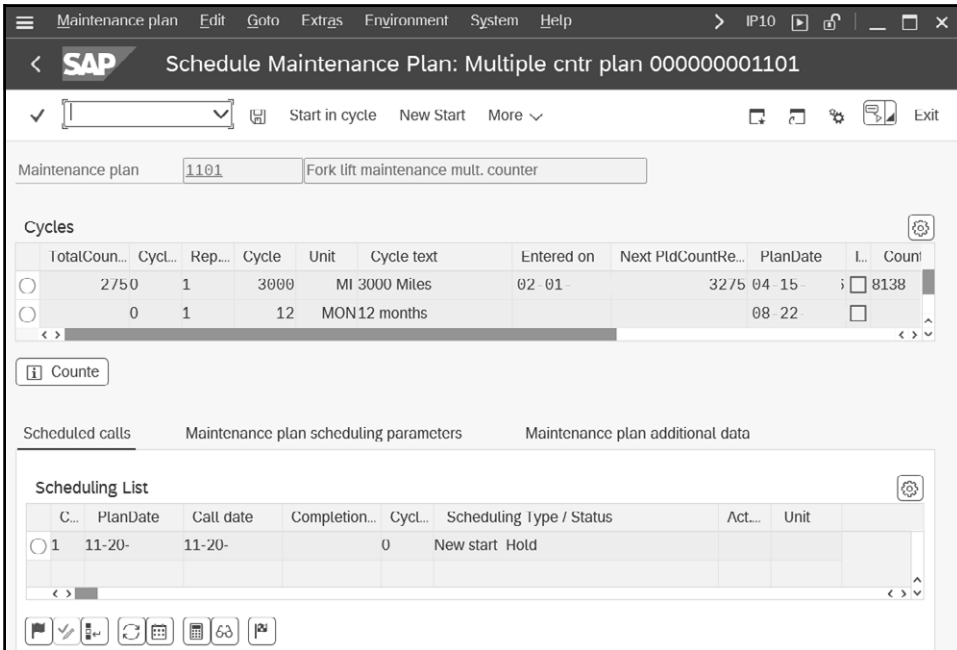

Figure 5.60: Started Multiple Counter Plan
4. If you selected **OR - Link**, the system suggests the first planned date in the **PlanDate** field; if you selected **AND - Link**, it suggests the last planned date in the **PlanDate** field of the order (see Figure 5.60).